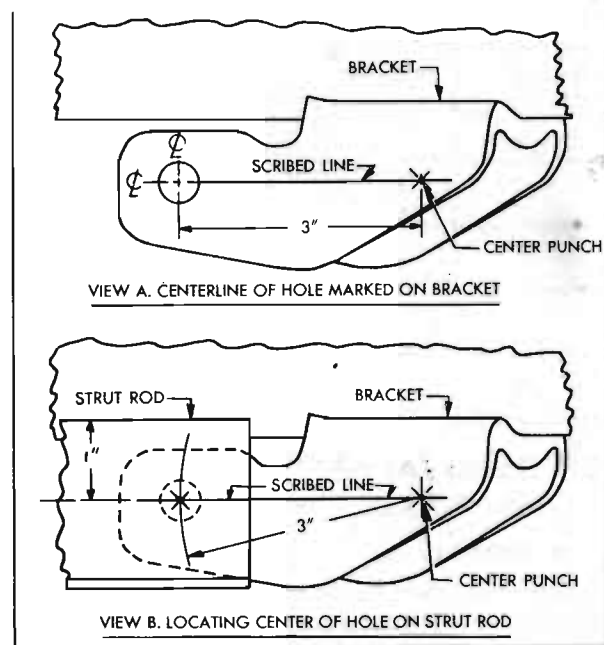

Figure 5-4—Locating Rivet Hole in Strut Rod
4. Before installation of strut rod, scribe a line on bracket in line with the center of rivet hole. Using a pair of dividers set at 3 inches, locate a center-punch mark on the scribed line exactly 3 inches from center of rivet hole. See figure 5-4 view "A".
5. Install strut rod in normal position without up or down strain at the bracket on torque tube. The top edge of strut rod should be approximately one inch from scribed line on bracket. See figure 5-4, view "B". It may be necessary to place a shim washer around front bolt between rod and bracket on axle housing to align front end of rod with bracket on torque tube.
6. Using a flexible straight edge, scribe a line on strut rod in line with scribed line on bracket. With dividers set at 3 inches and one leg set in center punch mark on bracket, scribe an arc across the line on strut rod. Center punch at intersection of line and arc. See figure 5-4, view "B".